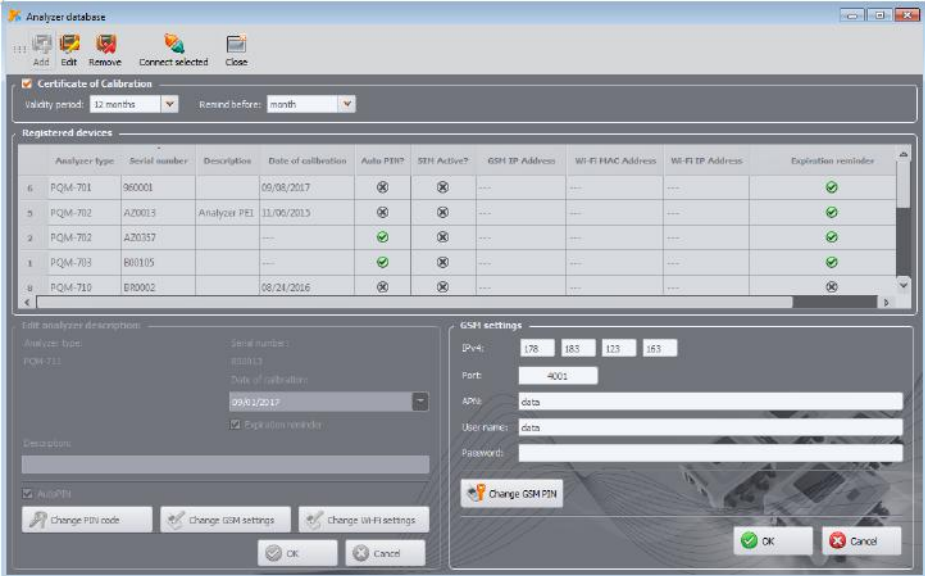

Fig. 42. Entering GSM settings in the analyzer database.
- Message "The analyzer is not connected" will be displayed with a panel for GSM settings in offline mode, in order to enter the IP number of the analyzer (Fig. 42).